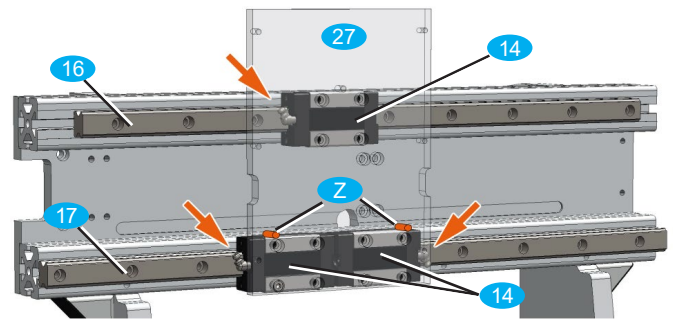

Fig. 17: Mounting sled Y on the portal
- Equip the lower carriage with straight grease nipples so that they point outwards (red arrows below in Figure 17).
- Equip the upper carriage with a 45° grease nipple so that it points upwards to the left (red arrow above in Figure 17).